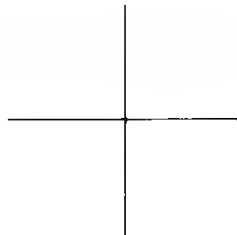

FIGURE 10-2. PEN-PEN TEST
2. At the **PEN-PEN TEST** menu, press the **ENTER** key to start the test. The pen changer cycles through all eight pens and draws a cross with each pen as shown in Figure 10-2.